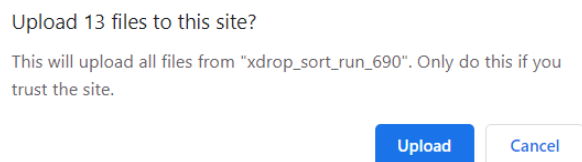

Fig. 4.3. Click Upload to confirm upload of your Xdrop Sort run.
2. If uploading a whole folder, a pop-up will appear asking for confirmation. Click Upload to approve the upload of the files (Fig. 4.3).